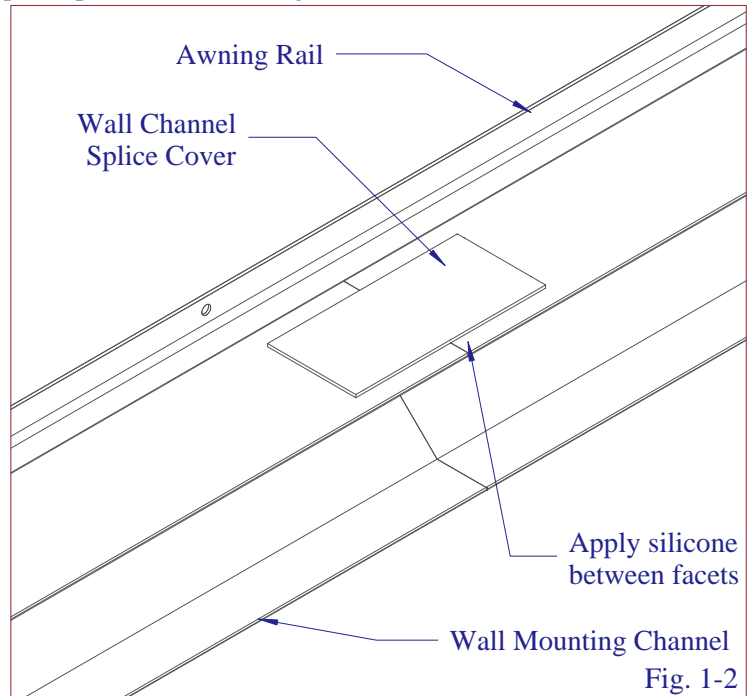

Fig. 1-2
- If Wall Mount is in two or more sections, splice using the provided Wall Mounting Splice Plate. Apply silicone to the top of the Wall Mounting Channel at splice and place the Wall Mounting Splice Plate over the splice. Attach with 4 - 3/4" Tek Screws and remove excess silicone. (see Fig. 1-2)